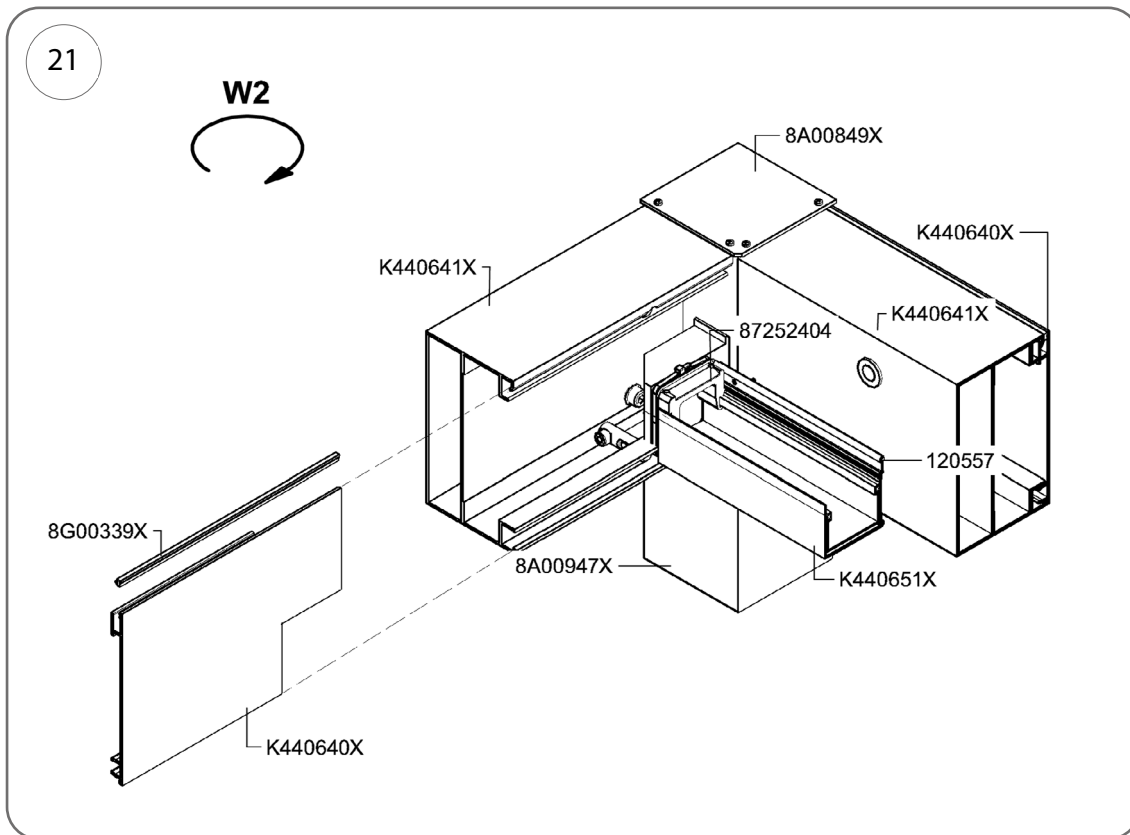

Fig. 21
- two gutter assemblies are terminated with elbows, cat. no. 8A00947X when the roof drainage is provided by 4 posts (fig. 21),